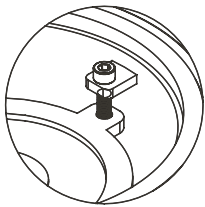

Figure 18.
7. Rotate and align recessed holes on hold-down plate with the tapped holes on shell tabs. Figure 18.